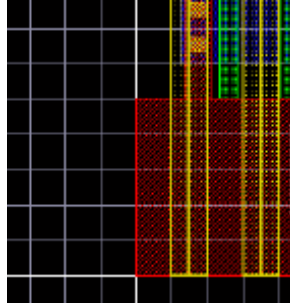

Figure 7 Cutout of Layout Window Showing 4λ Display Grid
13. Utilize the Virtuoso display grid to make drawing layout objects with respect to the routing grid easier as shown in Figure 7.